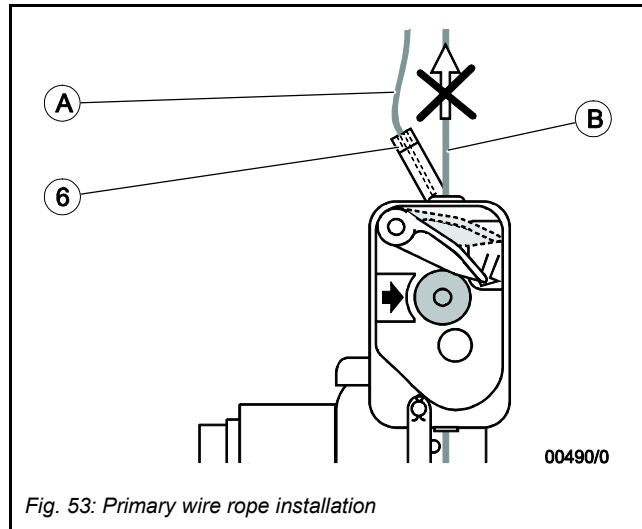

Fig. 53: Primary wire rope installation
- CASE (B):
- (1) If the BS/BSO secondary brake has automatically closed on the secondary wire rope, i. e. release lever (6) is tilted because of slack primary wire rope (Fig. 53):